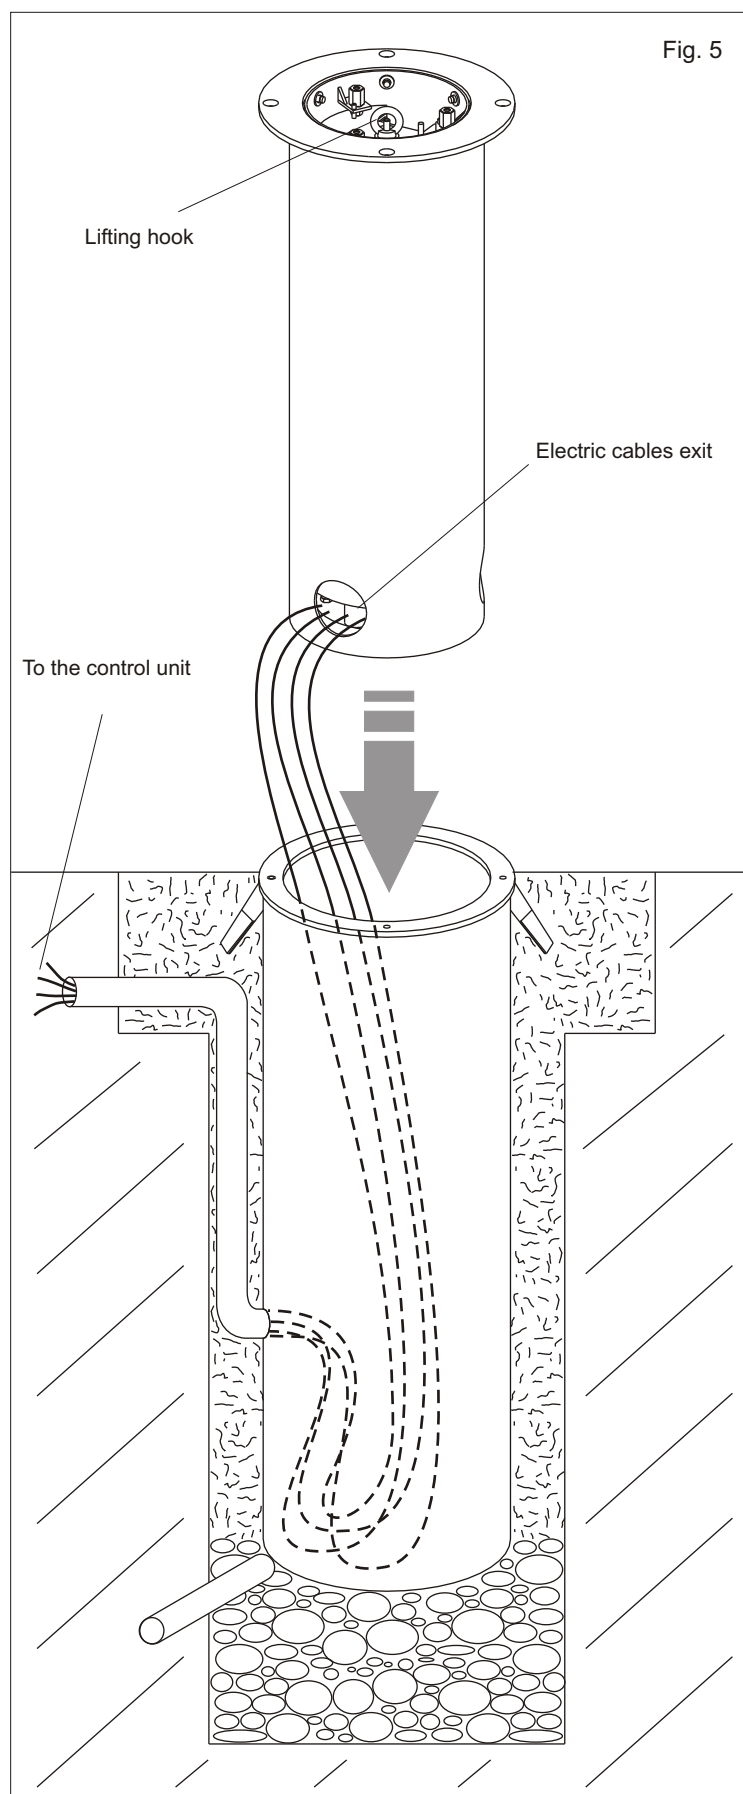

Fig. 5
2.2. Using the lifting hook, insert the bollard in the housing (Fig. 5).